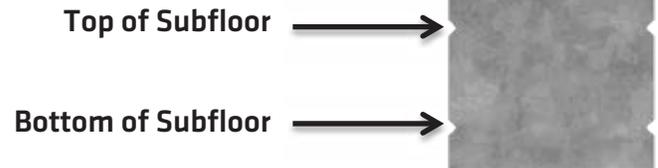

Fig. 1 Wall Bracket
- b. Wall brackets can be bent onsite if needed (nail to subfloor or bottom plate then use hammer to bend the bracket down). Notches on wall bracket represent top and bottom of subfloor (see fig. 1).